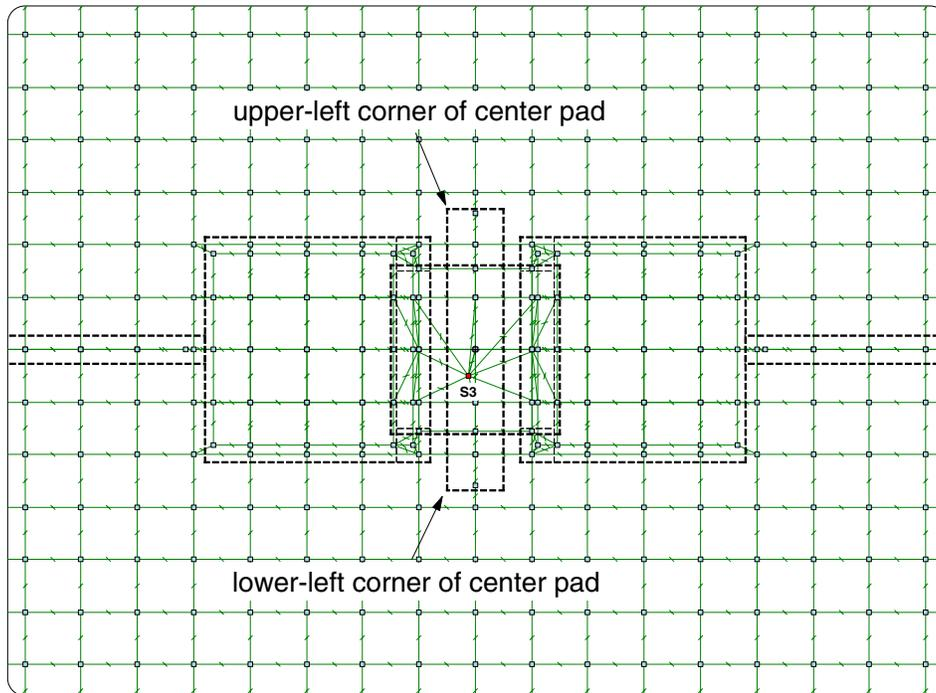

Figure 8: Reference points for adding 12 x 12 pads
Before creating the 12 x 12 pads, you will zoom in to match Figure 8 on the next page. Zooming in is easy, you just use **<F3 Zoom In>** and digitize two times. However, please note that with Sauna digitize means "click and release". It's not hold the mouse button down and drag. With that in mind, zoom in:
<F3 Zoom In> → *digitize 1st point to obtain Figure 8* → *digitize 2nd point to obtain Figure 8*
When complete, the window should roughly match Figure 8. If it's not the desired window, just zoom back out with  and try again.
→ click upper-left corner of center pad (see Figure 8)
**Pad/Rect → Ref/Dx → click lower-left corner of center pad (see Figure 8)